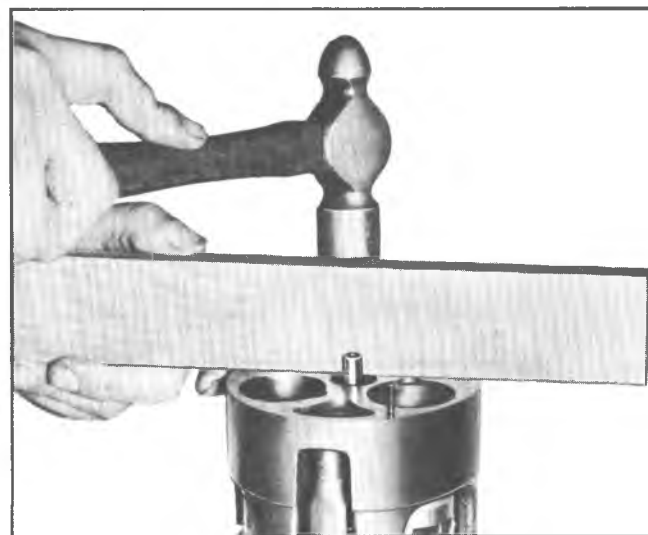

Fig. 22--Assembling Cylinder Halves
10. Align the rear head casting with bores, suction passage, discharge crossover holes, and dowel pins. Tap into place, using a plastic block and mallet (fig. 22).